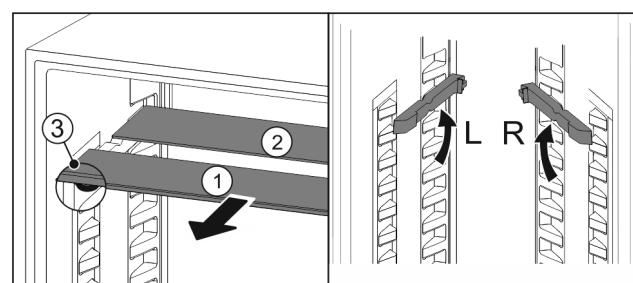

Fig. 125
- ▶ Pull the glass panels out Fig. 125 (1) from the front, one at a time.
- The glass panel *Fig. 125 (1)* and trim strip are at the front.
- The stops *Fig. 125 (3)* point down.